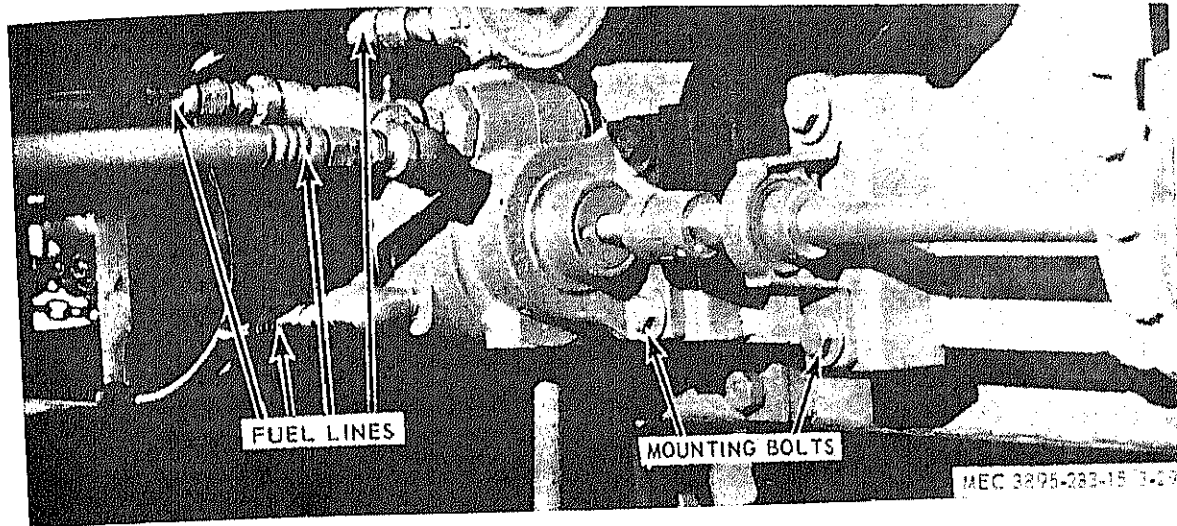

Figure 3-29. Fuel Pump Removal.
- (1) Disconnect fuel lines from pump (fig. 3-29).
(1) Remove belts (fig. 3-29).
(2) Remove mounting screws (2 on each bearing).
(3) Lift off mounting base.